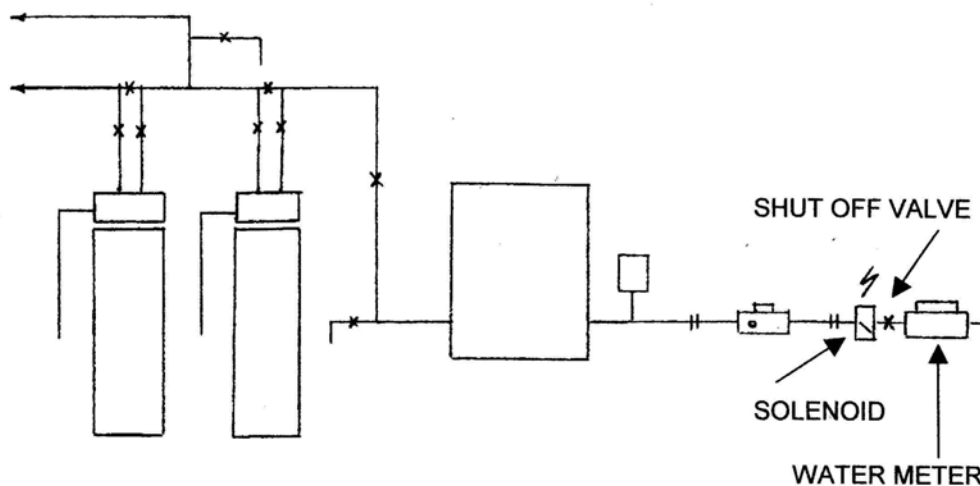

FIGURE 2
1. For the Micronizer to draw the required air into the system used in oxidation of the iron, the water system must produce a flow rate past the Micronizer of at least 5 GPM in each pump-up cycle. Municipal systems provide a constant pressure to the home – hence there is no pump-up cycle to operate the Micronizer. The draw from the household plumbing system at any time may range from a fully open tap to mere trickle. In order to assure that an air draw is present for all water passing the Micronizer, the household system must be configured to produce a pump-up cycle similar to a private well system. See Figure 2.